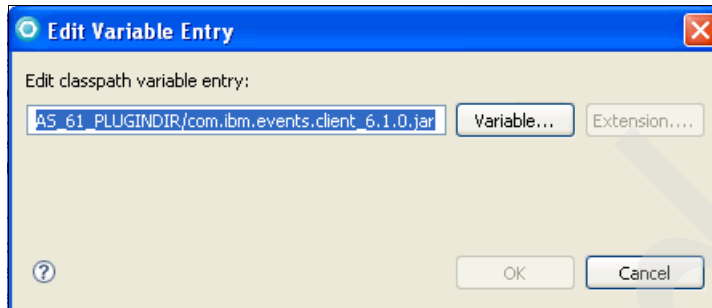

Figure 9-8 Edit Variable Entry window
3. In the Edit Variable Entry window (Figure 9-8), click **Variable**.